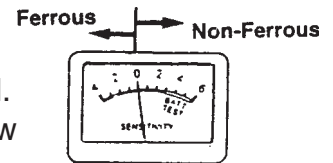

Figure 13
5. If the detector detects the material, it sounds a tone and the pointer moves to the left (ferrous) or to the right (non-ferrous) while the detector determines the type of metal it is detecting (see Figure 13).